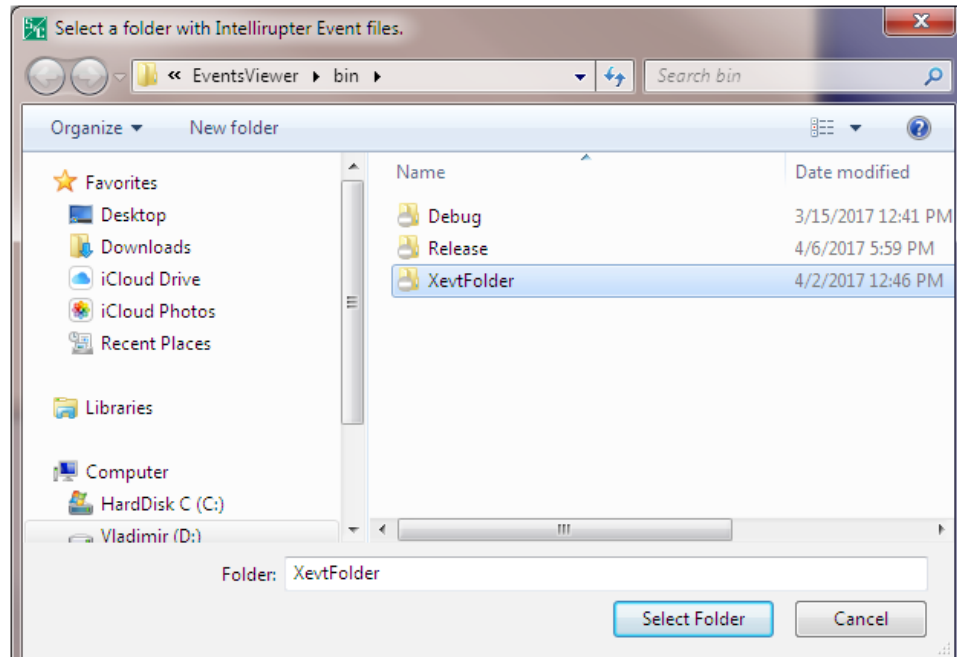

Figure 8. The Select a Directory dialog box.
STEP 4. Select a directory where the events log files are stored. See Figure 8.